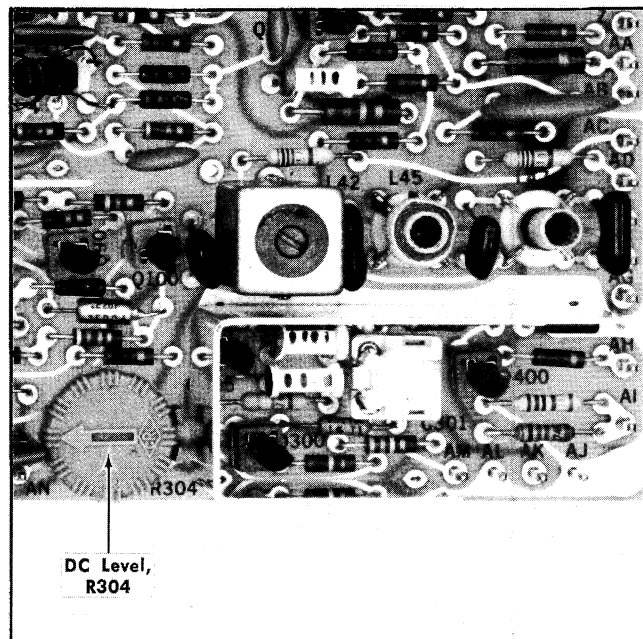

Fig. 2-10. Left side bottom-center view of the Main board showing the location of the DC Level control.
3. Adjust the DC Level control R304 (see Fig. 2-10) so the display starts at the same point as the normal (2H or 2V) sweep.